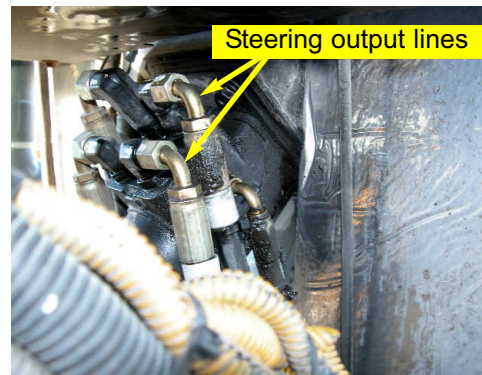

Figure 5a. Steering output lines.
- a. Locate the steering output lines on the left side of the steering orbital. The ports on the orbital will be stamped **R** and **L** on the casting. (Figure 5a.)